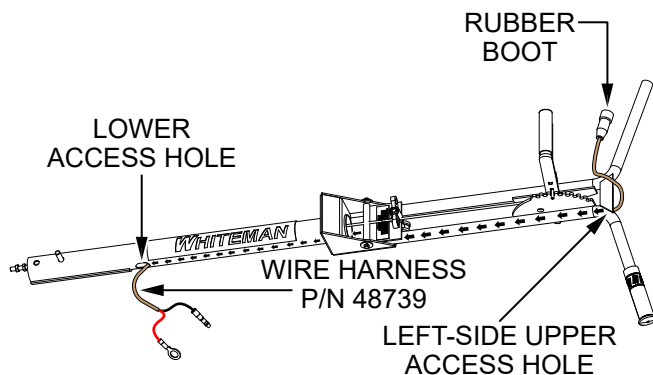

Figure 5. Route Wire Harness
- Carefully guide the terminals of the **wire harness** (P/N 48739) through the tubes of the handle and out of the **lower access hole** (Figure 5):